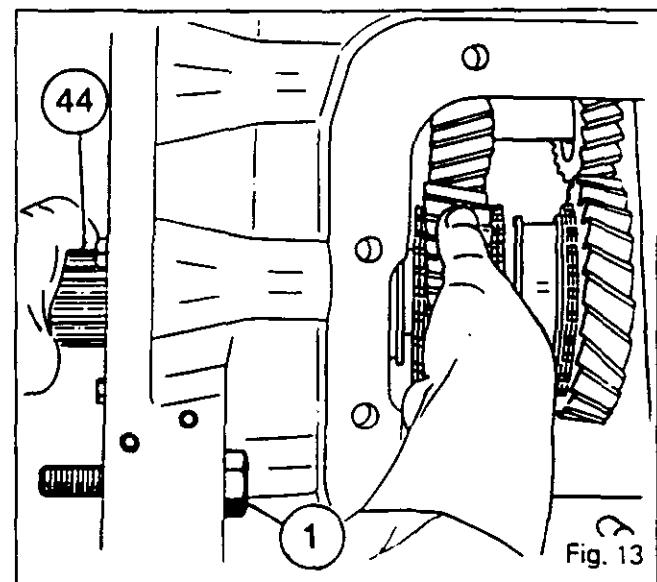

Fig. 13
3. If necessary, remove the bolt (1) (see Fig. 13).
39. Remove the circlip (45).
42. Remove the bolts (41) and the locking ring (46).
43. Remove the cup (48), cones (40) and (39), and the shaft (44).
44. Fit the following in the housing: the Tortoise gear (36), the synchromesh and its rings (33) and (74), the thrust washer (32), the gear (29) with its needle-roller bearings (30) and (28) and its synchromesh cones (75) and (76), thrust washer (27) and synchromesh ring (25).
**Note:** If bush (35) shows signs of wear, replace the complete gear assembly. (The bush is reamed after fitting). If the combination bearings (30) and (28) are worn, replace the complete gear assembly. (Bearings are fitted in the factory).
45. Insert the output shaft (44) while holding the gear assembly in position (see Fig. 13).
46. Pull the shaft slightly back in order to expose the groove for the snap ring (34).
90. Fit the bolt (1) (Fig. 13), if fitted, and carry out procedures 33 to 38, in Section 5 X01.